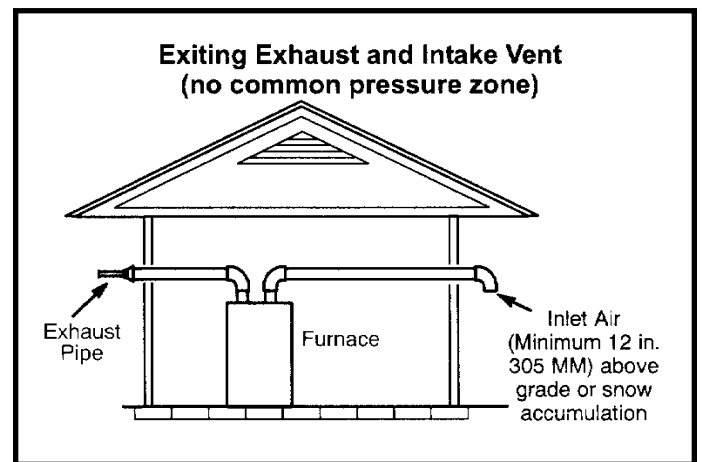
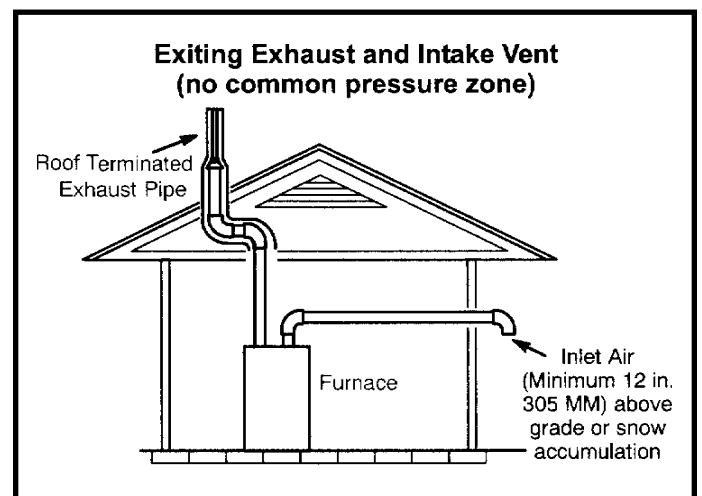

Figure 29
Figure 30
1. Vent terminations are not required to be in the same pressure zone. You may exit the intake on one side of the structure and the exhaust on another side (Figure 29). You may exit the exhaust out the roof and the intake out the side of the structure (Figure 30).